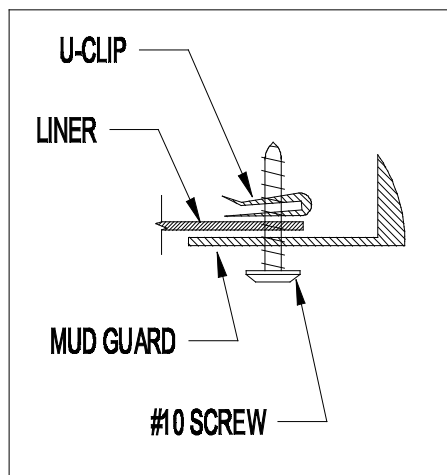

Figure 2
6. Install a #10 screw at locations D, through the mud guard and liner and into a U-Clip (Figure 2).